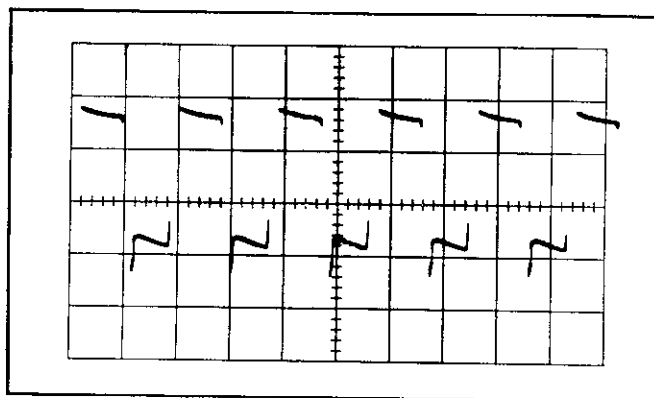

Fig. 2-3. Chopped blanking check with Crt Cathode Selector switch at Chopped. Vertical switching lines are blanked.
- Set the oscilloscope Crt Cathode Selector switch to the Chopped Blanking position and check that the fast rising and falling portions (switching portions) of the display are blanked so that only the "on" segments of each trace are visible (Fig. 2-3).